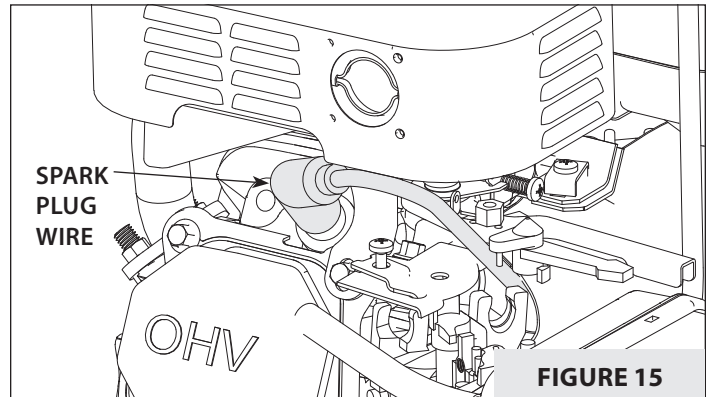

FIGURE 15
2. Disconnect the spark plug wire and secure it away from the spark plug. **SEE FIGURE 15.**